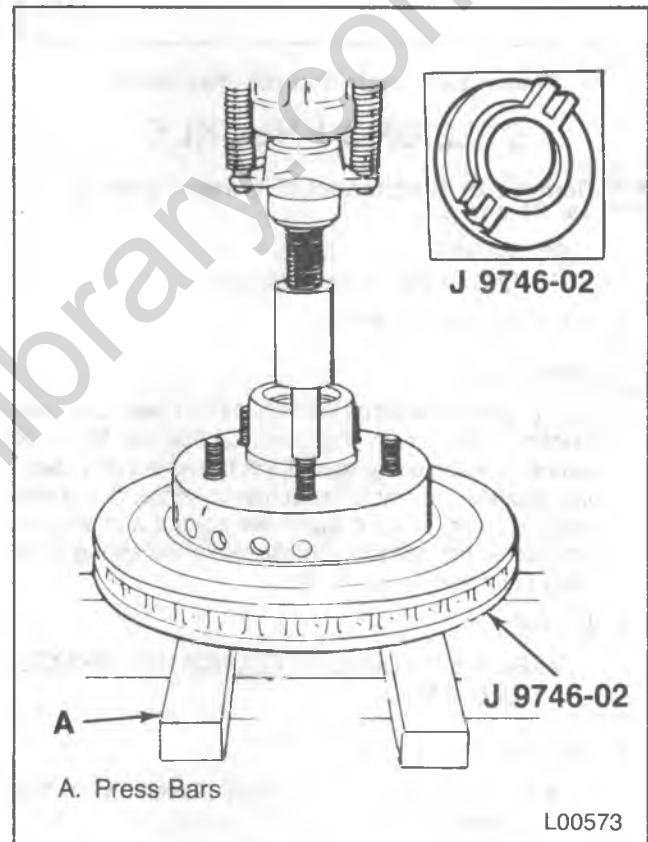

Figure 19 — Removing the Hub Bolts
Remove or Disconnect (Figure 19)
2. Wheel hub bolts (74) with a press.
- Support the hub/rotor (81) using J 9746-02 and press bars (figure 19).